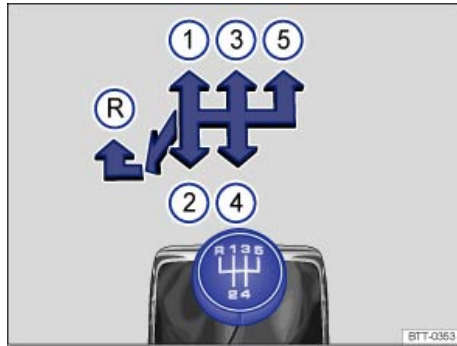
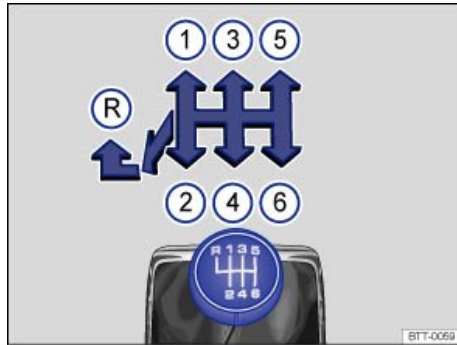

Fig. 133 Gearshift pattern of a 5-speed manual transmission.
Fig. 134 Gearshift pattern of a 6-speed manual transmission.
The positions of the individual gears are shown on the gearshift lever ⇒ fig. 133 or ⇒ fig. 134.
- Move the shift lever to the left and then push forward into the reverse gear position ⇒ fig. 133 \(R\) or ⇒ fig. 134 \(R\).